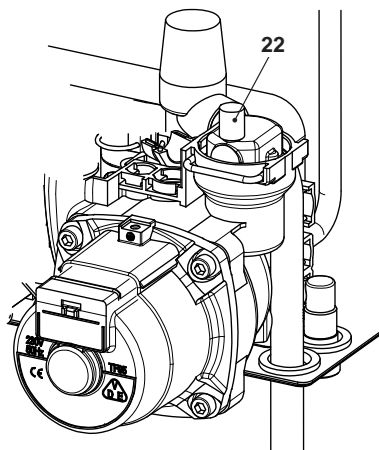

Fig. 9.6
- To make draining easier, lift the plug 22 of the automatic relief valve in Fig. 9.6.